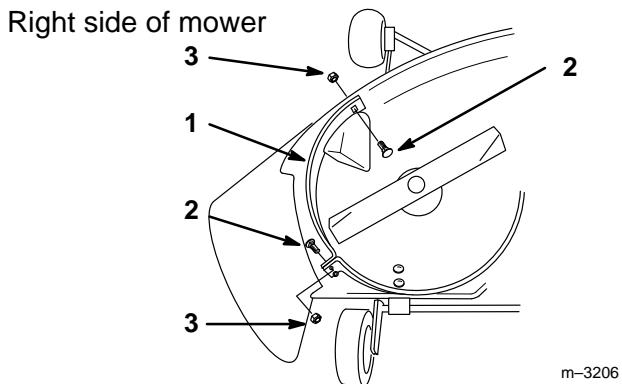

**Figure 1**
6. Install the thick washer, blade, thin washer, and the blade nut (Fig. 1).